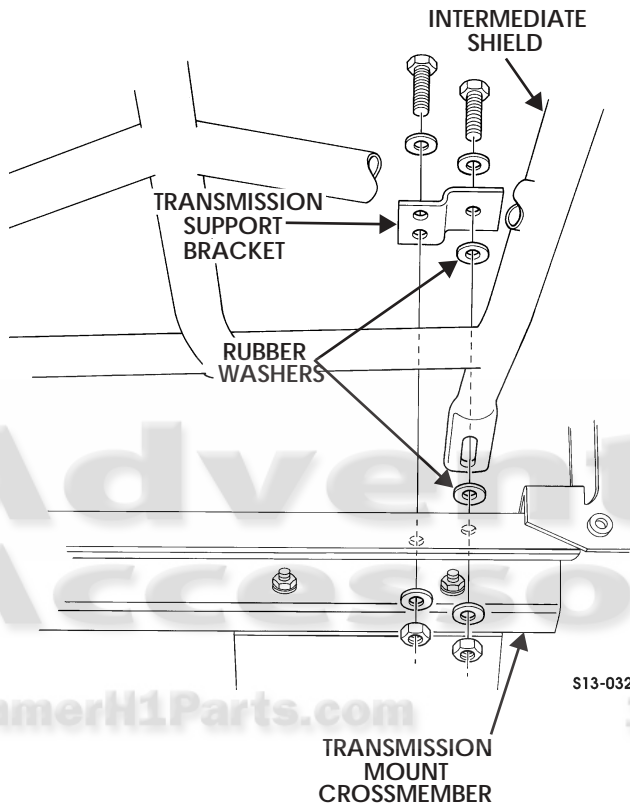

Figure 13-35: Intermediate Shield
1. Remove six locknuts, washers, capscrews, washers, and four rubber washers securing two transmission support brackets and intermediate shield to transmission mount crossmember. Remove support brackets. Discard locknuts (Figure 13-35).
6. Install two transmission support brackets on transmission mount crossmember with four washers, capscrews, washers, and locknuts. Tighten locknuts to 24 lb-ft (33 N•m) (Figure 13-35).